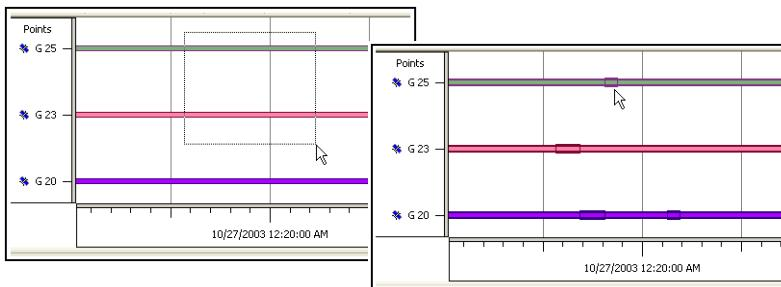

Figure 6-4. Selecting Epochs
2. Either drag a square around an epoch or click a satellite's epoch (Figure 6-4) to select the desired epoch(s) and time interval(s).